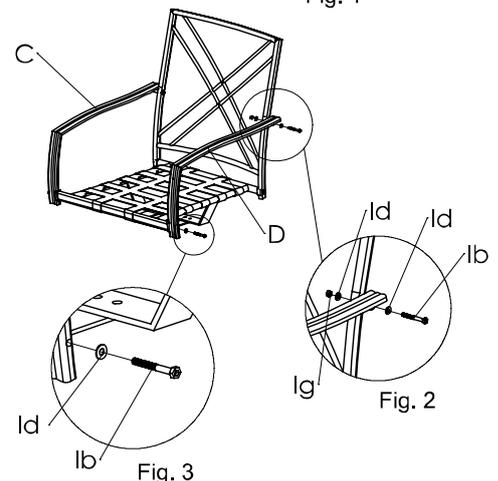

Fig. 2
- 3) Attach the right arm (C) and the left arm (D) to the assembled seat and back. Align the holes, insert an M6×55L bolt (Ib) through an M6 metal washer (Id), through the arm (D), through the back (A), through another M6 metal washer (Id) and secure with an M6 nut (Ig), See Fig. 2. Insert an M6×55L bolt (Ib) through an M6 metal washer (Id) and secure into the seat (B). See Fig. 3. Don't tighten completely. Repeat procedure for the right arm (C).